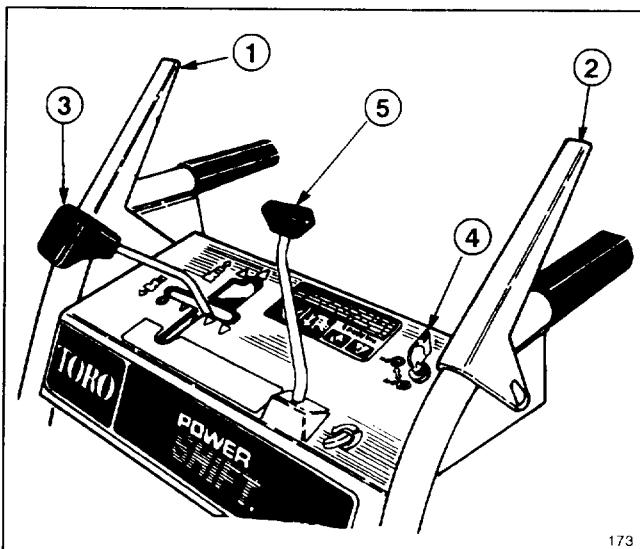

Figure 12
**Auger/Impeller Control** (Fig. 12)—Control has two positions: ENGAGE and DISENGAGE. To engage both auger and impeller, compress lever against right handle grip. To disengage, release lever.
**Traction Drive Control** (Fig. 12)—To engage traction (wheel drive) or activate power shift system, lever must be compressed against left handle grip. To stop traction, release lever.
**Speed Shift Control** (Fig. 12)—The control has a neutral position, four speeds forward and two reverse, and also controls power shifting of wheels. To select speeds, move shift control to desired position.
**Auger Lock-Up** (Fig. 12)—When the auger/impeller control and traction drive control are both compressed, the traction control locks the auger/impeller control down. Releasing the traction control releases the auger/impeller control.
**Discharge Chute Control** (Fig. 12)—Rotate discharge chute control clockwise to move discharge chute to the right and counterclockwise to move chute to the left.
**Ignition Switch** (Fig. 12)—Switch has two positions: ON and OFF. Rotate key to ON position before starting engine. To stop engine, rotate key to OFF.
1. Move speed shift control to N (neutral) and throttle to FAST (Fig. 12).
5. Rotate ignition key to ON (Fig. 12).
1. Release traction and auger/impeller drive controls (Fig. 12).